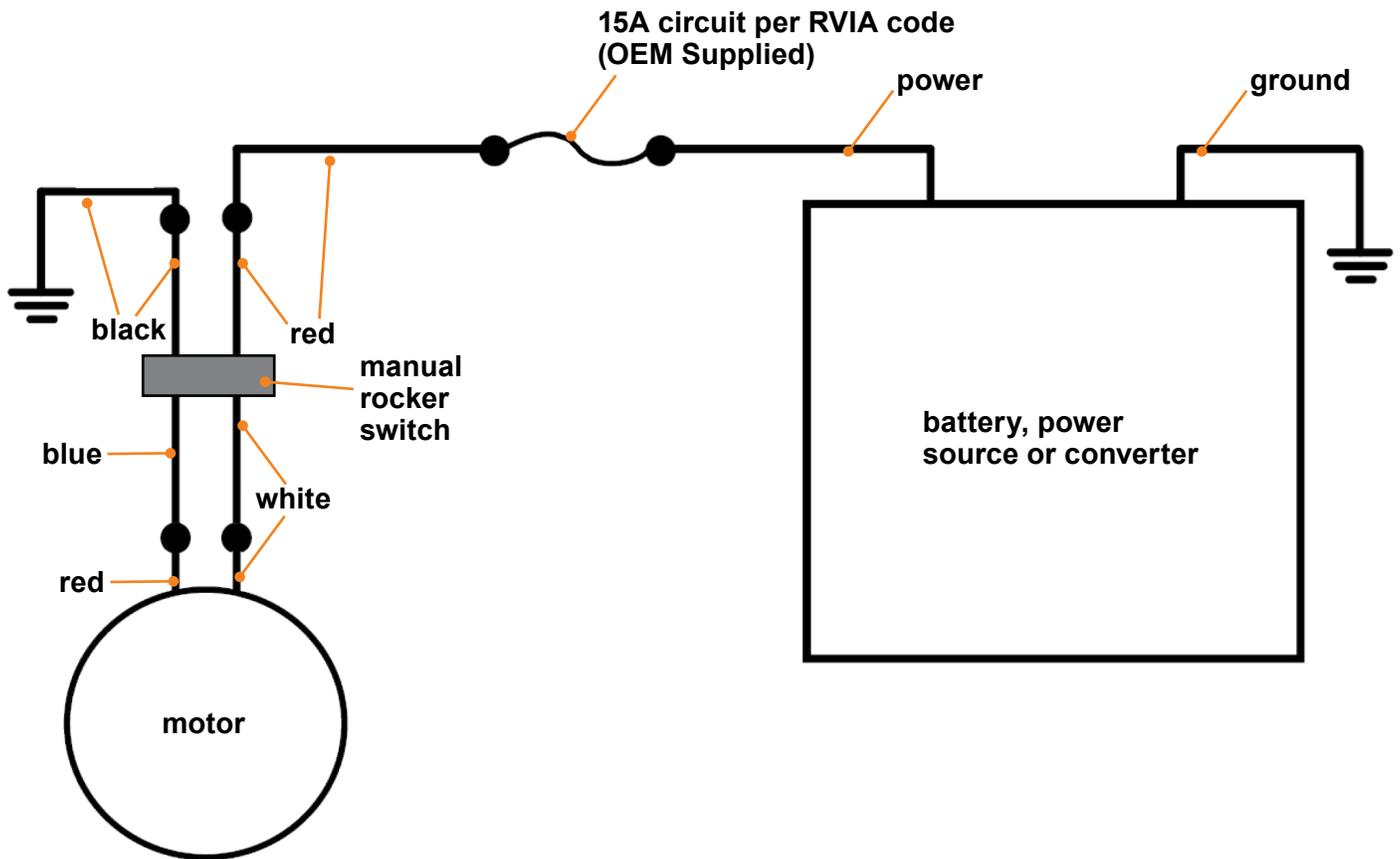

Fig.28
2. Connect wiring from the unit to the switch and the awning drive head per the wiring diagram below (Fig.28).